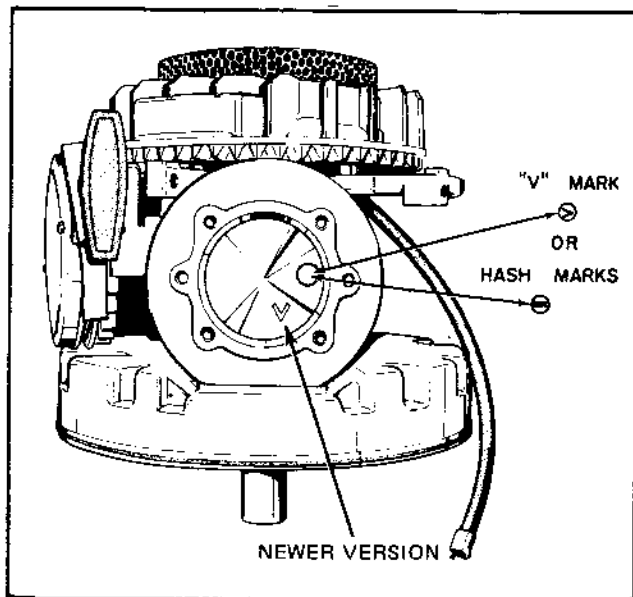

Figure 7-4
B. OFFSET PISTON USED ON THE AV600 AND AV520 SERIES ENGINES. The "V" stamped in the piston head (some models have hash marks) must go to the right as the engine is viewed as in Figure 7-4.